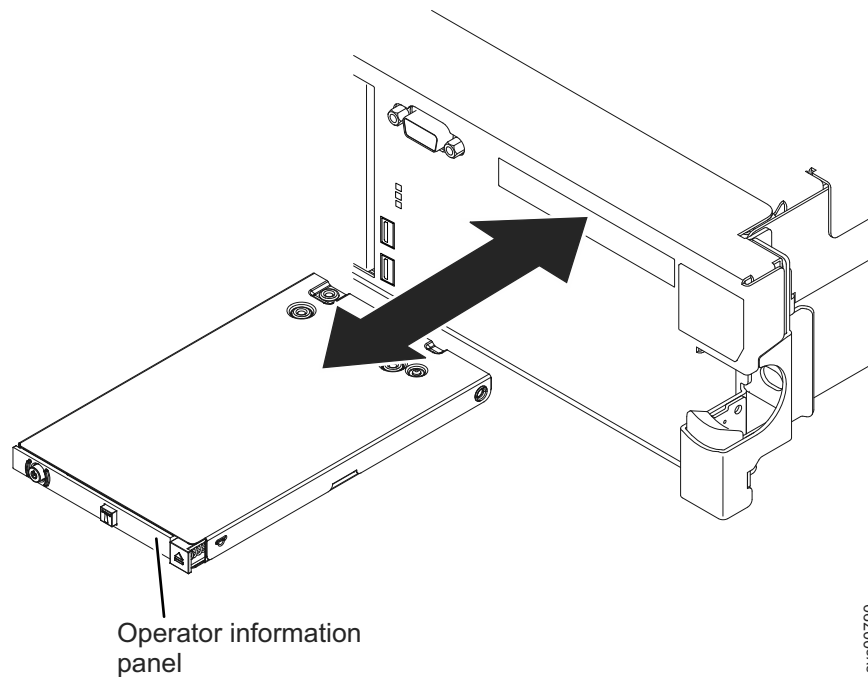

Figure 254. Removing the 2145-DH8 operator-information panel assembly
4. From the front of the node, slide the operator-information panel assembly out of the node, as shown in Figure 254.